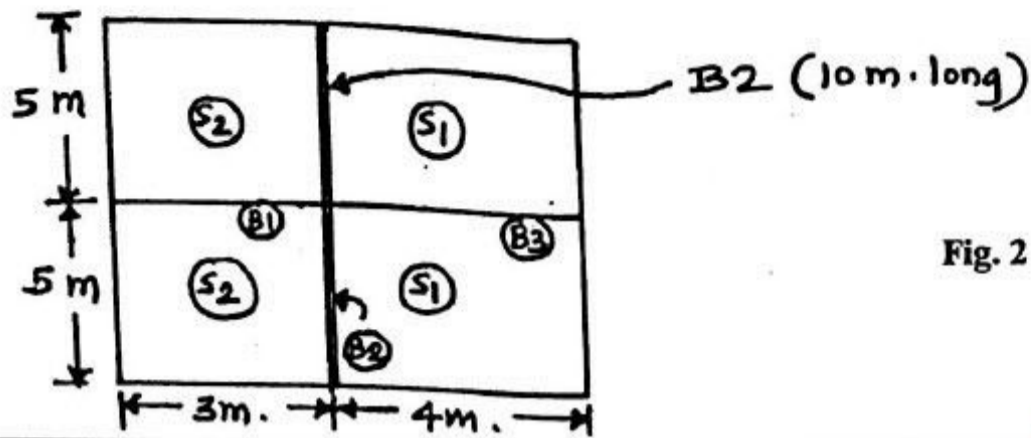

Fig. 2
Q. 2) Carry out the design for the slab S2 & beam B2 (fig. 2). Take Live Load =  $3 \text{ kN/m}^2$ , Floor Finish =  $1.5 \text{ kN/m}^2$ . Use M20 grade of concrete & Fe415 grade steel. Take all the necessary checks. Draw neat reinforcement diagram. Use Limit State Method. (20 M)